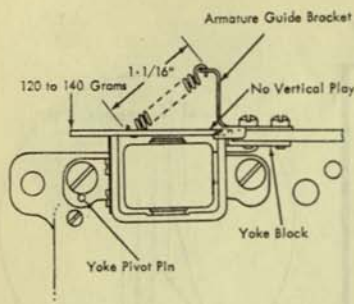

Figure 5. Escapement Adjustment
1. Remove the contact mounting bracket and slide the yoke block to the right until it seats firmly against its bracket (Figure 5).
2. Remove the vertical play from the armature pivot by rotating the magnet yoke about its pivot pin. The operating end of the armature must be free to move 1/8" without binding (Figure 5).
3. Form the armature guide bracket to require 120 to 140 grams to seal the armature, with the armature pin removed. A quick check can be made with the unit in the machine by measuring the 1-1/16" dimension as shown in Figure 5.